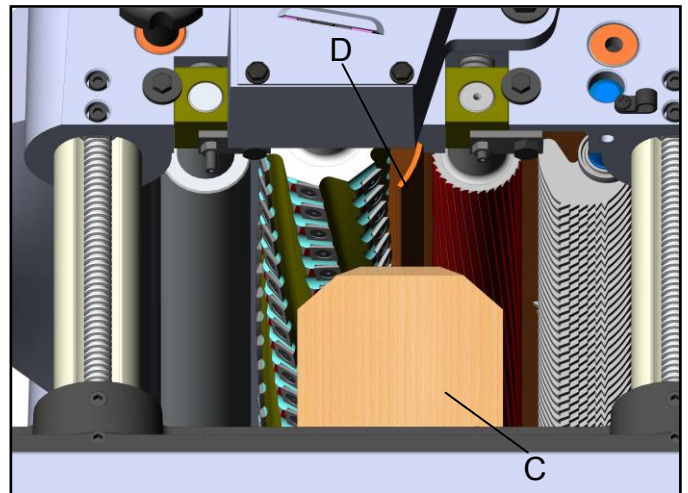

Fig. 24
4. Move the gauge block (C) underneath the chip breaker (D, Fig. 24). The bottom of the chip breaker should just touch the top of the gauge block. Check the opposite end of the chip breaker in the same manner.